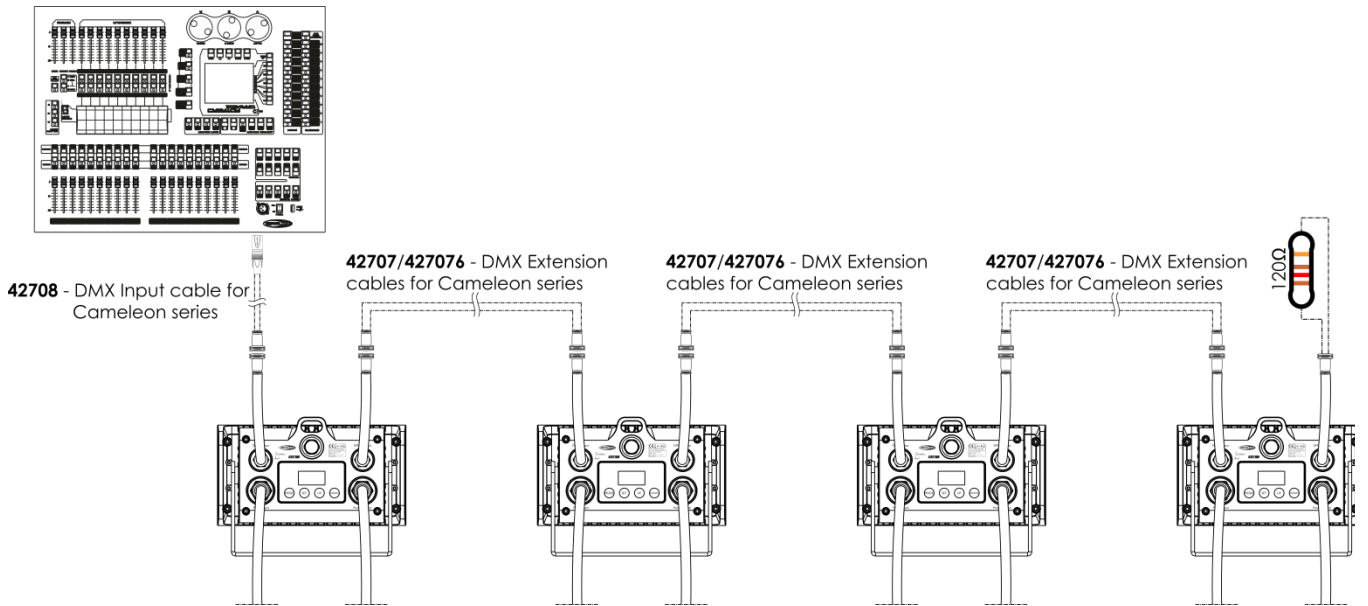

Fig. 04
- 04) Link the units as shown in fig. 04. Connect a light controller to the first unit's DMX "in" socket, using the 42708 – DMX input cable. Connect the first unit's "out" socket with the second unit's "in" socket, using the 42707/427076 – DMX Extension cable, Link the second and third units using the 42707/427076 – DMX Extension cable.